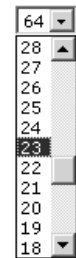

Figure 6-19 — Volume drop box
4. Click the Volume Steps (64 Max) drop box. A drop-down scroll box appears (figure 6-19).